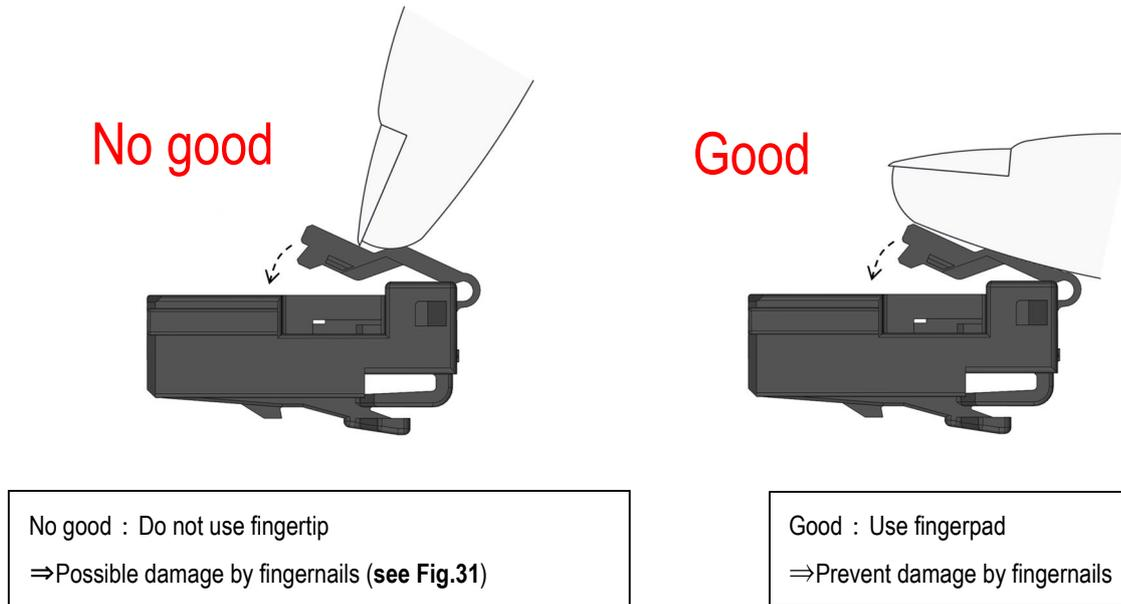

Fig.30. Precautions for secondary lock part installation
- ④ Do not use fingertips to install secondary lock part as shown in Fig. 30.